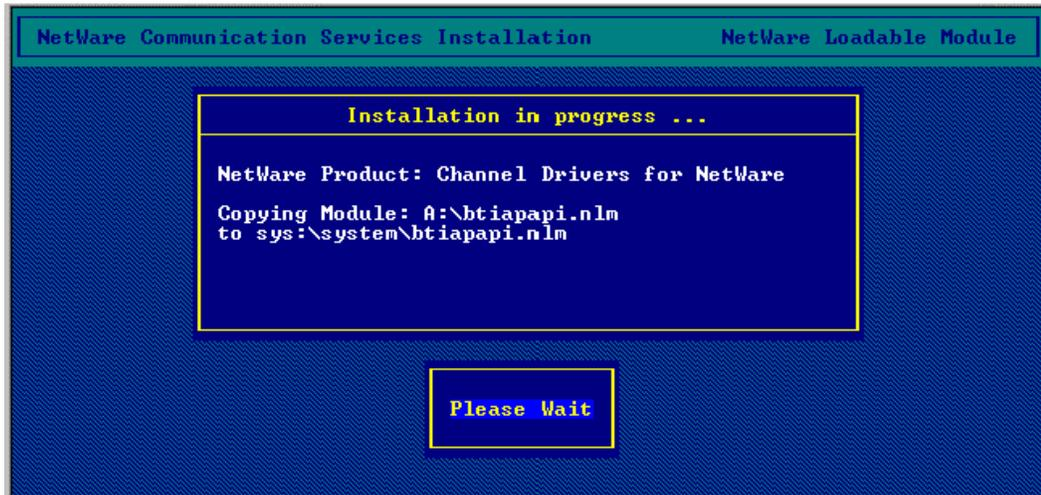

Figure 3-12. Installation in Progress
7. The installation program will then copy driver and support files into the appropriate sub-directories of the SYS: volume. A status window will show progress (Figure 3-12); periodically updating with names of files being copied.